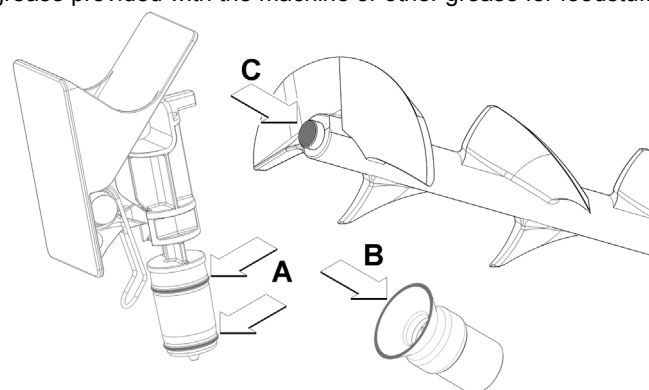

figure 24
- 2 Lubricate the tap piston, the scraper fitting and the front of the scraper in the points indicated in Figure 24 using only the grease provided with the machine or other grease for foodstuff.